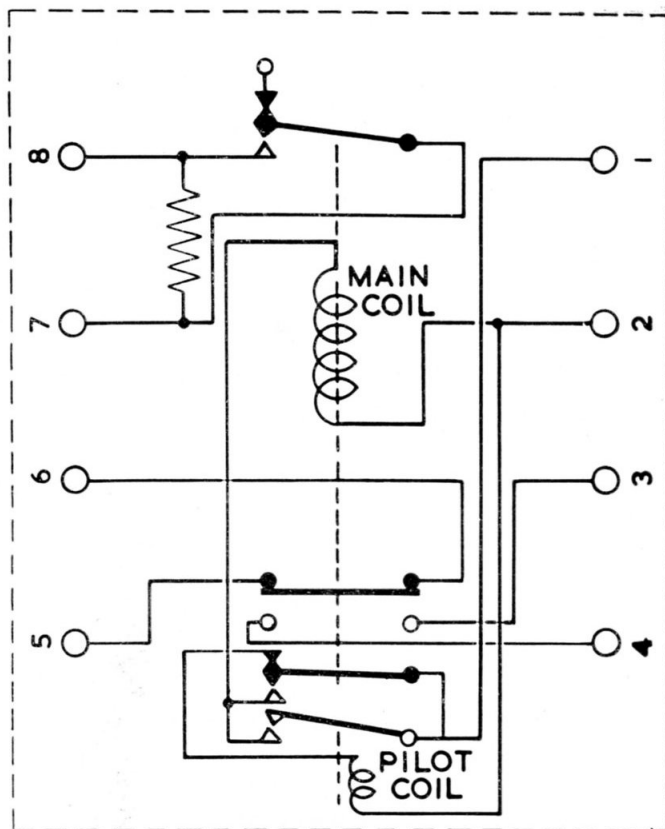

Fig. 2. Diagram of connections
4. When a supply of 28 volts is applied between terminals 1 and 2 (*fig. 2*), the pilot relay operates. This energizes the main coil, causing contacts across terminals 7 and 8 to close, those across terminals 3 and 4 to close and those across terminals 5 and 6 to open. The pilot coil is open circuited and a further pair